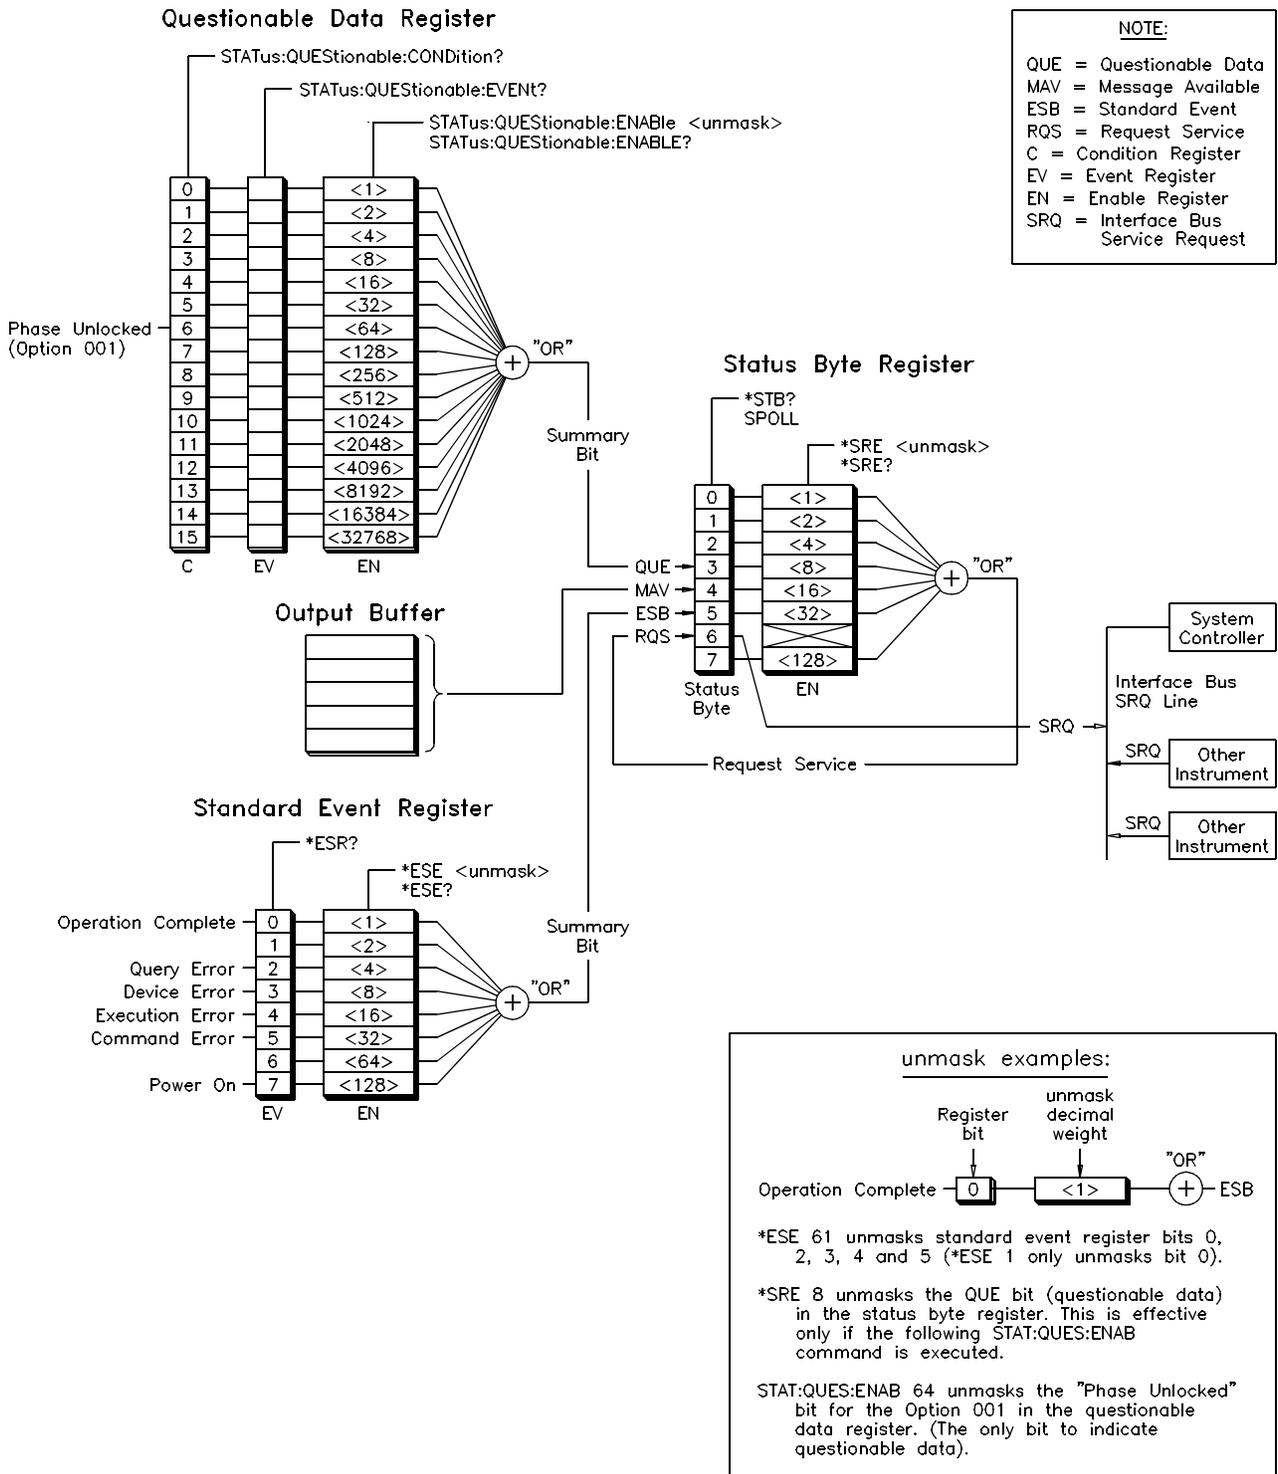

Figure 3-1.
- The STATus system contains four registers, two of which are under IEEE 488.2 control; the Standard Event Status Register (*ESE?) and the Status Byte Register (*STB?). The Operational Status bit (OPR), Service Request bit (RSQ), Standard Event summary bit (ESB), Message Available bit (MAV) and Questionable Data bit (QUE) in the Status Byte Register (bits 7, 6, 5, 4 and 3 respectively) can be queried with the *STB? command. Use the *ESE? command to query the "unmask" value for the Standard Event Status Register (the bits you want logically OR'd into the summary bit). The registers are queried using decimal weighted bit values. See Figure 3-1 on page 119